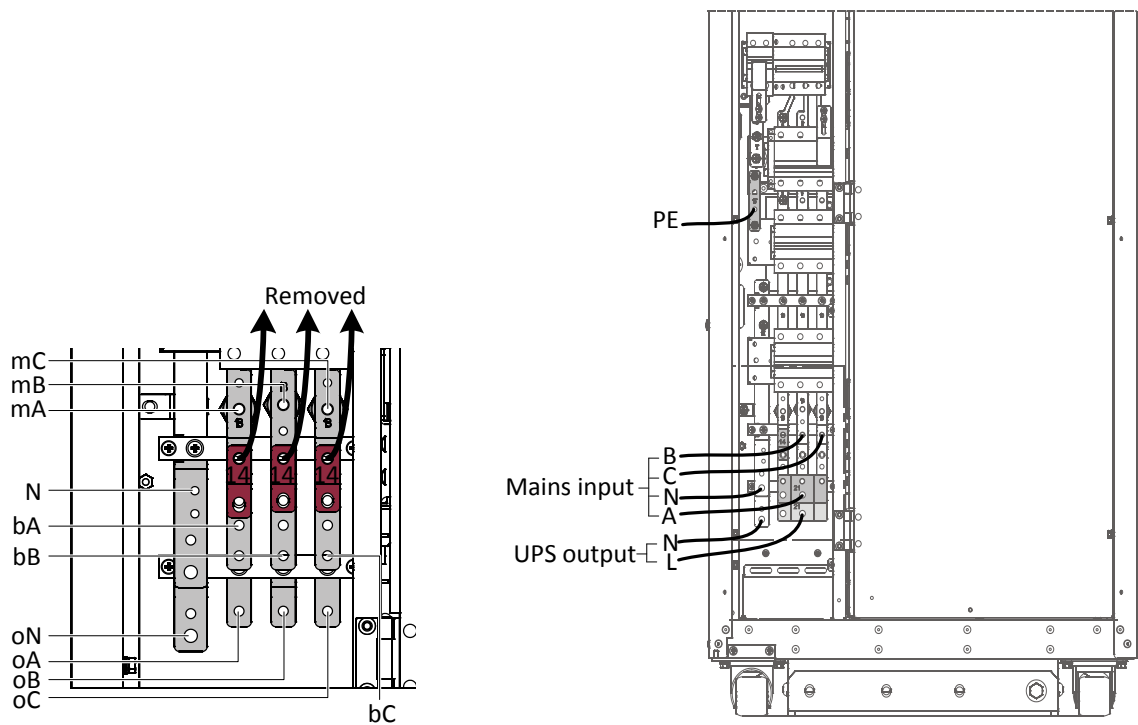

Figure 8-35 3-in 1-out, common source configuration cable connection
(1) Remove the three shorting copper bars (number 14) from the rectifier input terminals mB and mC (mA reserved), see left diagram in Figure 8-35. Use 3-in 1-out copper bars (number 21) to connect the output terminals (oA-oB-oC), and then connect the bypass input terminals (bA-bB-bC), see right diagram in Figure 8-35.
(2) Connect the rectifier input cables to rectifier input terminals (mA-mB-mC) in the cabinet, and connect the input neutral line to neutral terminal 'N' in the cabinet. Ensure correct phase rotation.